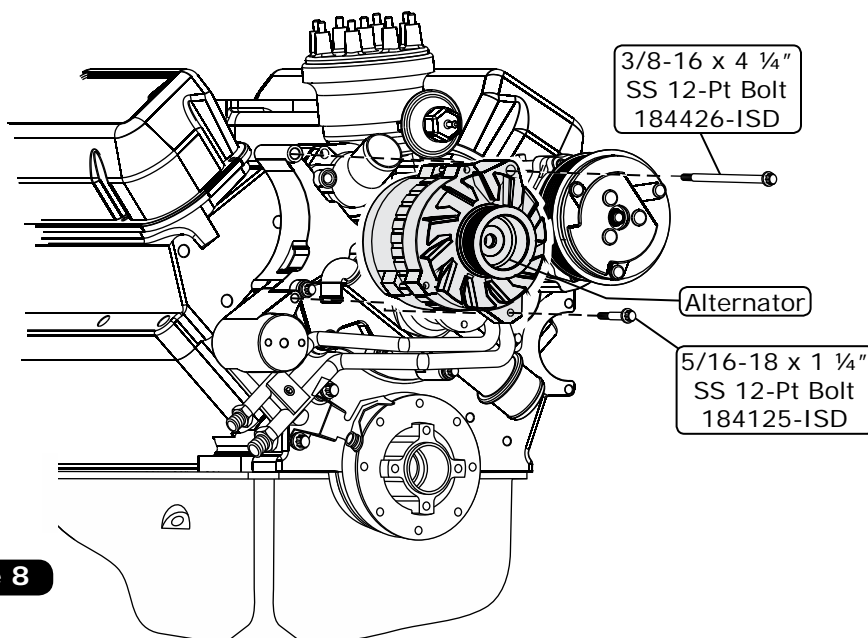

Figure 8
1. Install the alternator onto the Front Runner main bracket and secure using a 3/8-16 x 4 1/4" SS 12-Pt Bolt and a 5/16-18 x 1 1/4" SS 12-Pt bolt as shown in Figure 8, below. Torque to 24-28 lb ft.